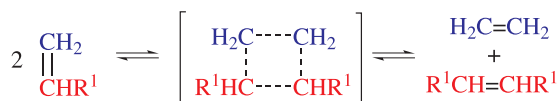

Figure 1: Metathesis of olefins
In Greek, "Metathesis" is known as the change of position or transposition. **Olefin metathesis (OM)** is the catalytic **scission** and **regeneration** of C=C bonds as shown in Figure 1. This is a **reversible** process and the reverse reaction is called "**cross metathesis**" of olefins.